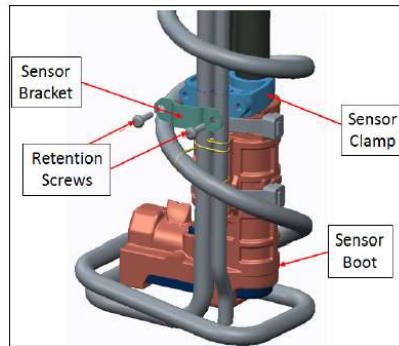

Figure 6: Remove and retain sensor bracket and retention screws.
12. Then remove the retention screws and sensor bracket. Slide the Tri-Function Sensor from the MFHU mounting base, being careful to not damage the MFHU coil and suction tubes while removing the sensor. Refer to Figure 6.